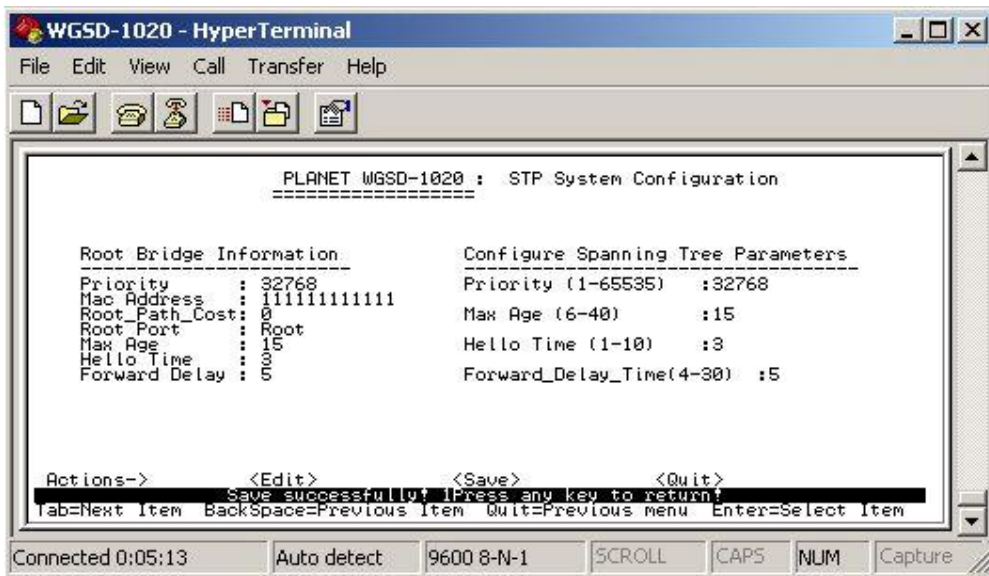

Figure 4-52 STP system configuration save successfully screen
2. After modify completed, press “ **Ctrl-A**” to “ **Action menu**” and choose “ **save**” to save the current configure. The screen in Figure 4-52 appears.